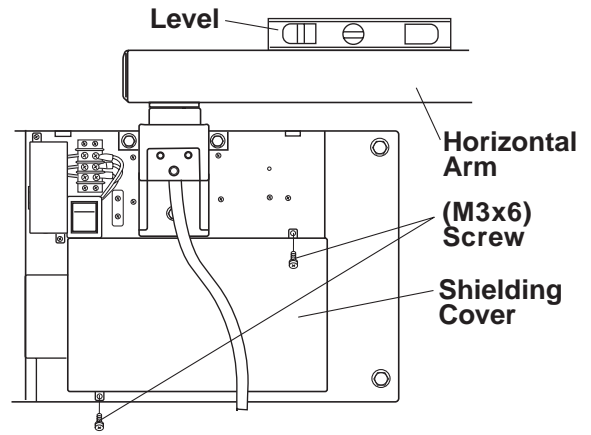

Fig.3-7 Removing Shilding Cover
- Place a level on the horizontal arm and confirm that the arm is level throughout its left and right swing positions. (Fig.3-7)
- Remove two (M3 x 6mm) screws and remove the shielding cover for power PC Board. (Fig.3-7)
- Re-install the shielding cover for power PC board again. (Fig.3-7)